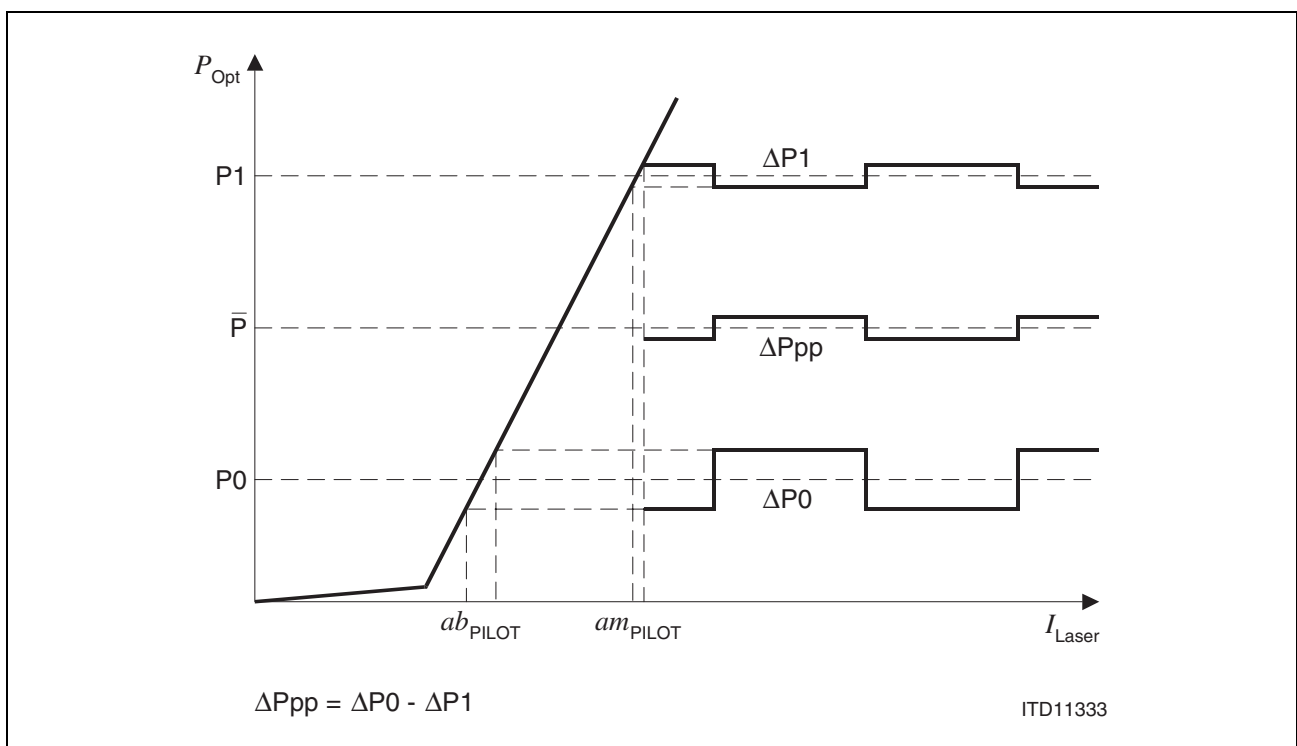

Figure 8 Modulation Current Control by Using a Pilot Signal
- 26) Out of amp_{PILOT} and ab_{PILOT} a factor $K = ab_{PILOT}/amp_{PILOT}$ can be defined, which is an important factor for the pilot control (for definition of amp_{PILOT} and ab_{PILOT} see Figure 8). For most laser diodes the optimum value of K is 1.44 (default value). If K is set close to factor 2 the modulation current and jitter may increase. If K is set close to factor 1 the modulation current may decrease. In both cases a malfunction of laser control is possible. A resistor between V_{CC} and RMRIP can be used for decreasing amp_{PILOT} . Further a resistor between V_{CC} and RBRIP can be used for decreasing ab_{PILOT} . So the factor K can be adjusted. For default factor K let RBRIP and RMRIP connected to V_{CC} (= V_{CCA}).